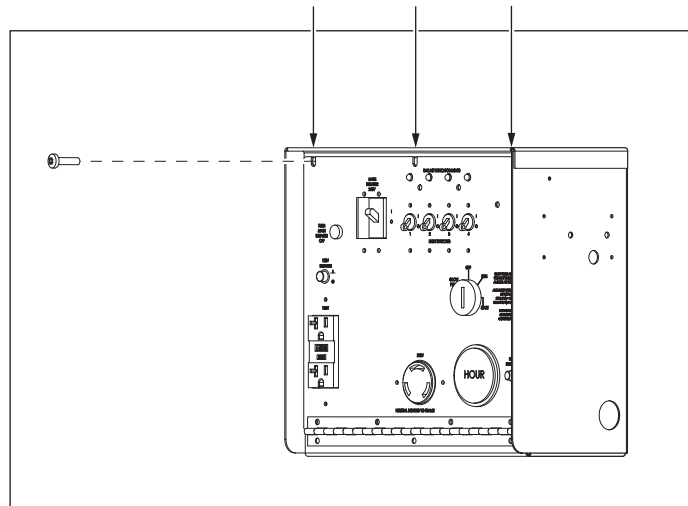

Figure 14 - Screws Securing Panel to Control Box
7. See Figure 14. Remove screws securing panel to control box. Open control box.